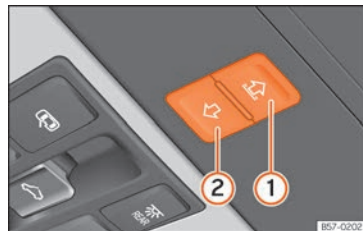

Fig. 149 On the interior roof lining: switches for the sun blind.
Buttons **Fig. 149** **(1)** and **(2)** have two levels. The first level opens or closes the sun blind fully or partially.
- **Sun blind:** within approximately 5 seconds of having activated the anti-trap function, press button **»» Fig. 149**  until the sun blind closes completely.